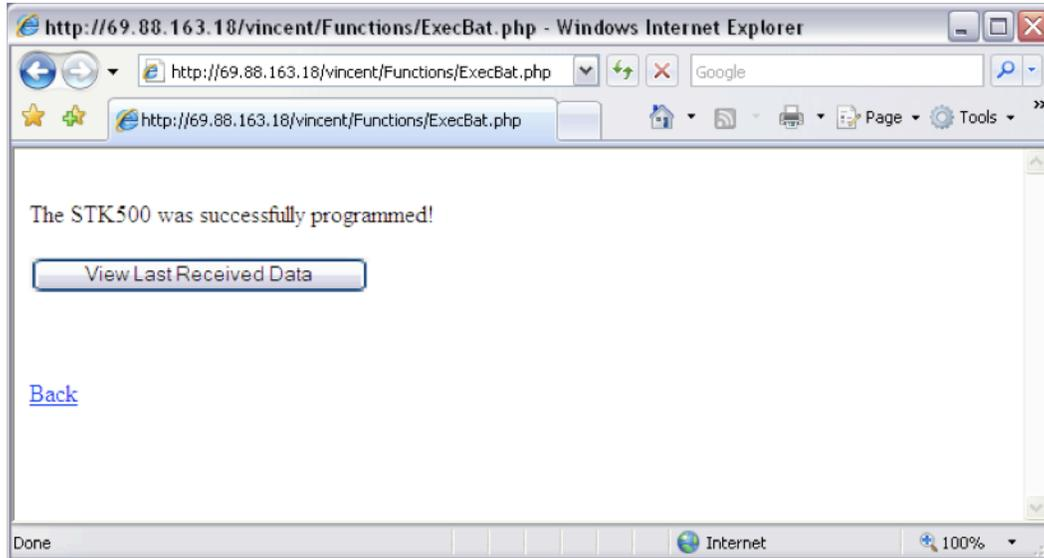
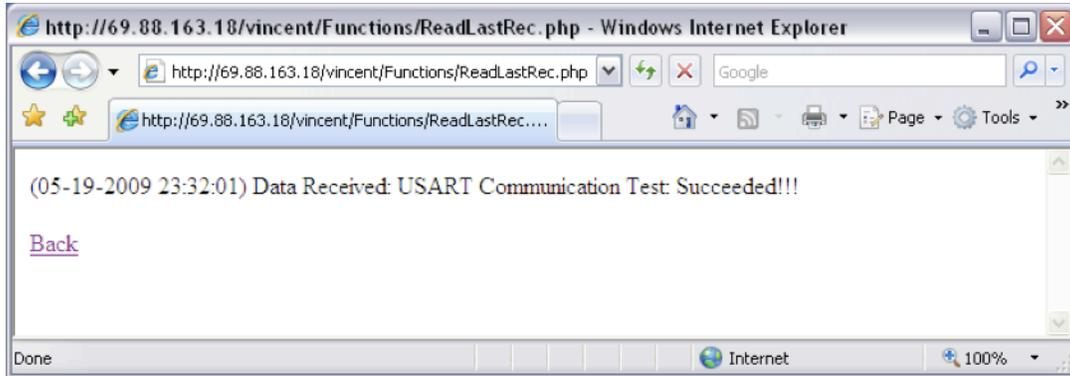

Figure 4.53 Screenshot of the results page after successfully programming the networked STK500.
Figure 4.54 Screenshot of an instance of the results page for the data last received by the server from the networked STK500.
4.4.4.7 To program the target MCU installed on the STK500, click on the button labeled “Program the STK500” within the results window shown in Figure 4.52. Click on the “Back” link to go back to the homepage without programming the board. The results shown in Figure 4.53 should display if the board is successfully programmed. This also means that the application started execution right after being loaded.
4.4.4.8 Click on the button labeled “View Last Received Data” shown in Figure 4.53 to view the most current data sent from the STK500 to the server. This button is used as a way to reassure whether the board has been properly programmed with the correct HEX application. Click the “Back” link to go back to the homepage without viewing the last received data. If the “View Last Received Data” is selected, the results page will load over the current browser window and will display a message similar to that shown in Figure 4.54. From here, click the on the link “Back” to go back to the homepage.